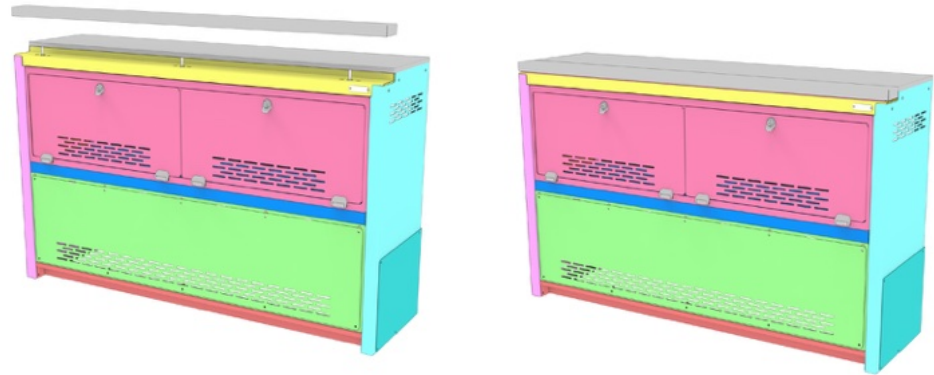

FIG 29
**4.3 Install Cover Panel (optional):** While the **Cabinets** are not in use as a **Bed Platform**, you may install the **Cover Panels** by aligning the rubber bushings on the bottom of the **Cabinet Cover Panel** with the **Bed Pins**, and firmly press/slide the cover panel down onto the pins (**FIG 29**).